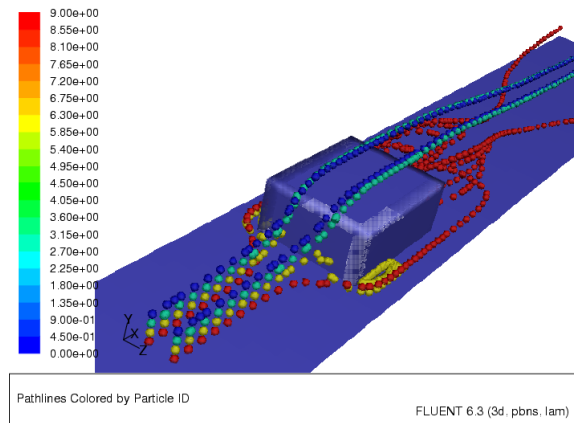

Figure 23.15: Sphere Pathlines Display
- (h) Rotate the display so that the flow field in front and in the wake of the chip is visible, as shown in Figure 23.15.